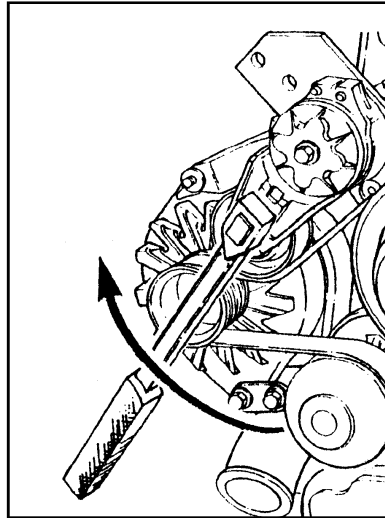
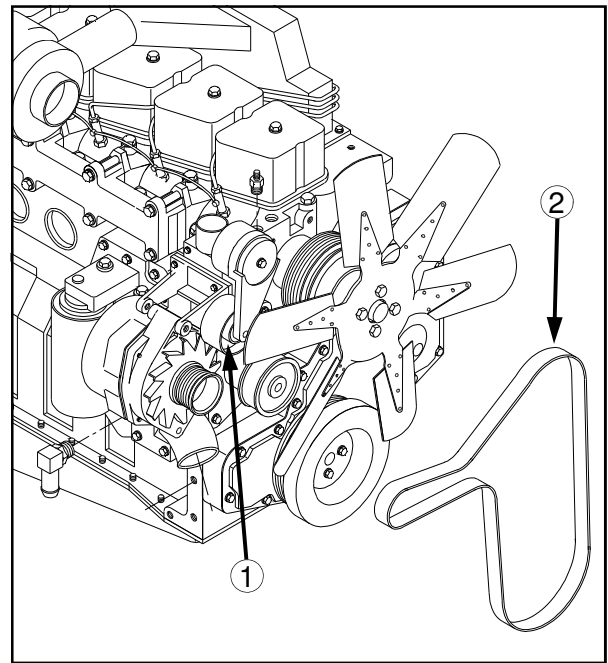

FIG 6.17-1
FIG 6.17-2
REMOVAL– Insert a 1/2 inch square ratchet drive (fig. 6.17-1) into the belt tensioner (fig. 6.17-2, item 1) and lift upward to remove the belt (fig. 6.17-2, item 2).